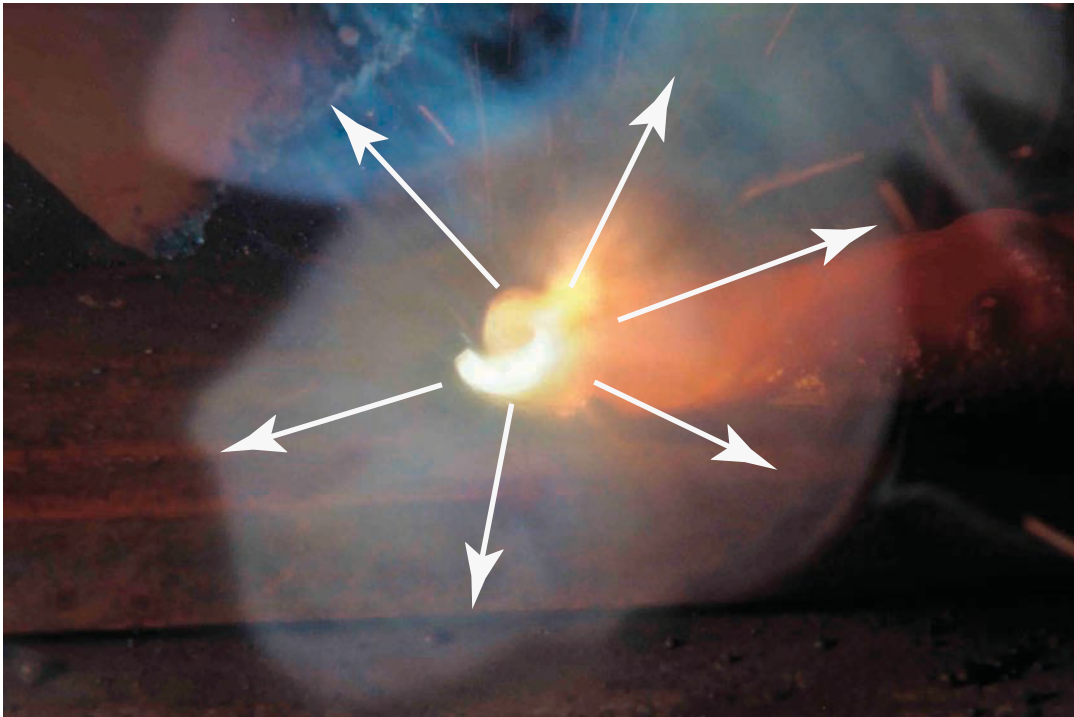

Figure 3.13 Rapidly expanding gas cloud
- *Shielding gas:* As elements in the flux are heated by the arc, some of them vaporize and form voluminous gaseous clouds hundreds of times larger than their original volume. This rapidly expanding cloud forces the air around the weld zone away from the molten weld metal, Figure 3.13. Without the protection this process affords the molten metal, it would rapidly oxidize. Such oxidation would severely affect the weld's mechanical properties, rendering it unfit for service.